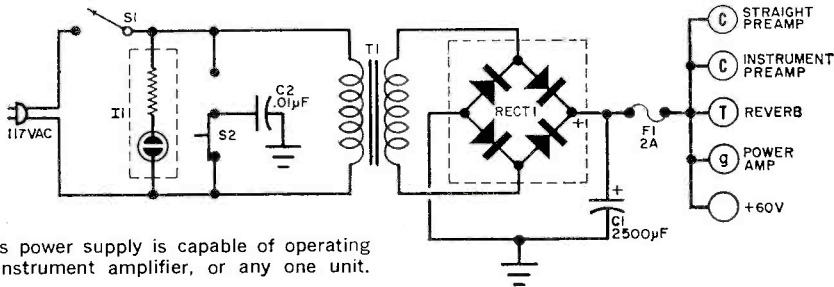

Fig. 17. This power supply is capable of operating the entire instrument amplifier, or any one unit.
**Power Supply.** The circuit for a power supply capable of driving the complete system is shown in Fig. 17. It is a conventional full-wave rectifier and filter capacitor combination that will deliver 60 volts at the required current. Indicator *I1* tells when the power has been applied to the system, while *S2* is placed in the position that produces the lowest hum level (if any).